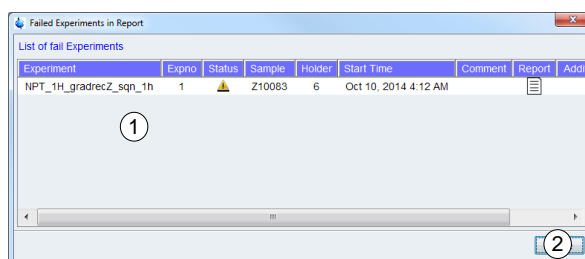

Figure 5-74: Results tab – Failed Experiments in Report dialog
The **List of failed Experiments** (Figure 5-74 (1)) contains all non-successful experiment runs set to be used for report. Non-successful experiments are either experiments with status error (red status icon) or experiments that do not meet the specifications (yellow exclamation mark). Further information about each of these experiment runs is provided. Click **Close** (Figure 5-74 (2)) to close the dialog.